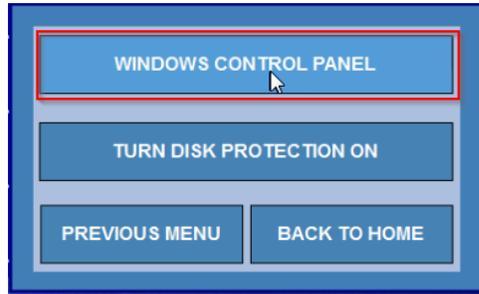

Figure 10-8 - Accessing the Windows 7 Embedded Control Panel
9. Select **Control Panel** from the Instrument Configuration menu (see Figure 10-8)